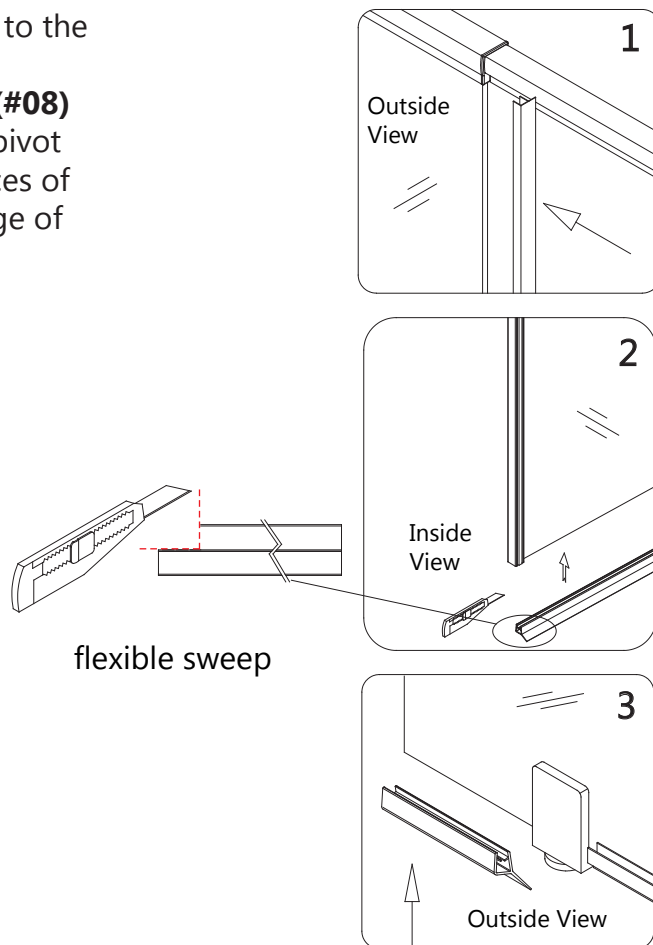

Fig 12
12. Attach the **Flanged Anti-water Strip (#07)** to the vertical edge of the Stationary panel glass. Measure and cut the **Bottom Anti-water Strip (#08)** to cover the bottom edge of the door from the pivot to both sides of the Glass door. Attach both pieces of the **Bottom Anti-water Strip** to the bottom edge of the Glass door. (**Fig 12**)